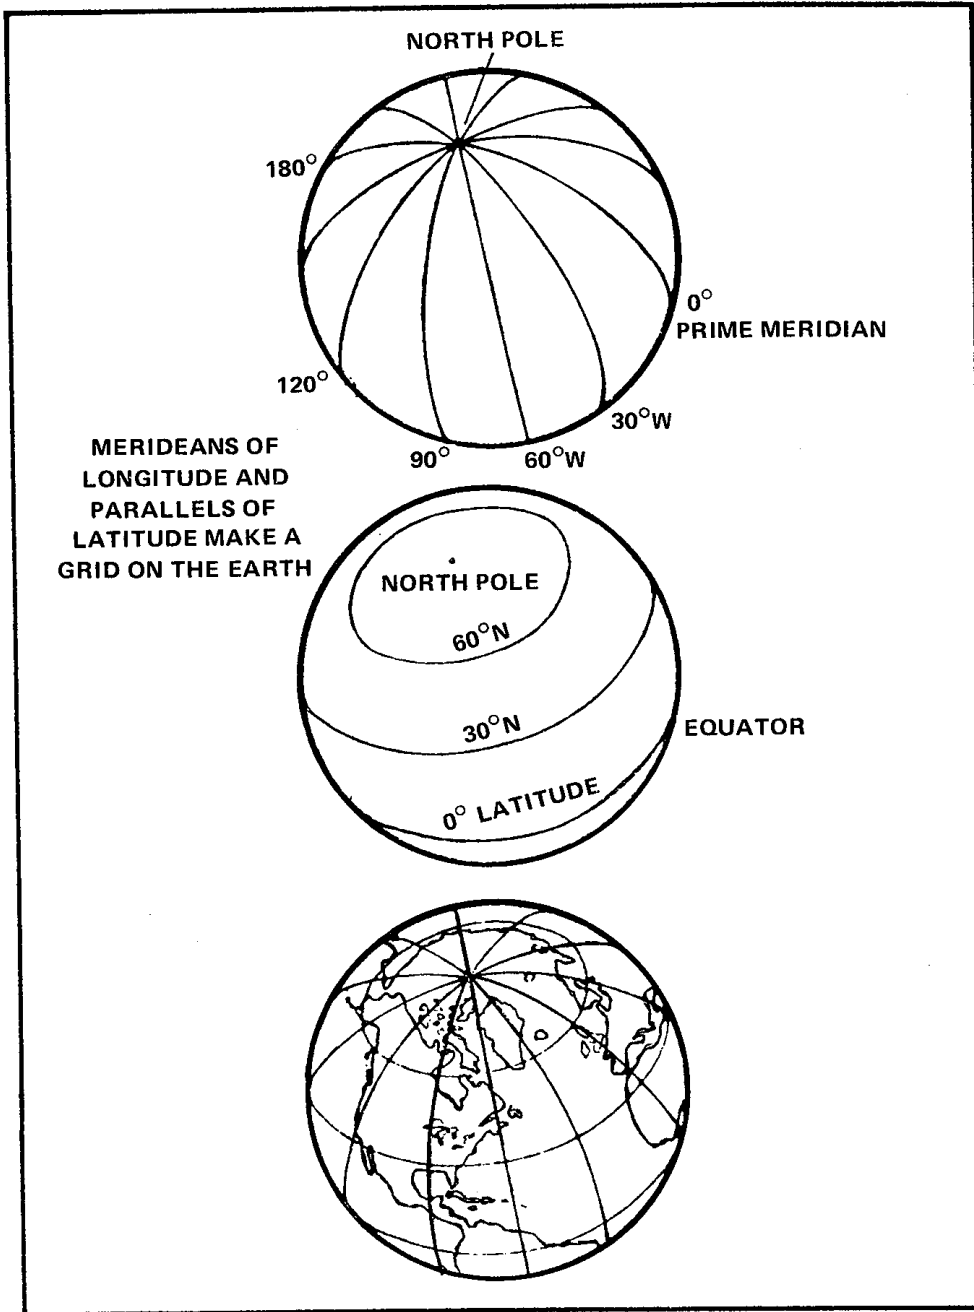

Figure 7-11 Meridians of Longitude and Parallels of Latitude Make a Grid of the Earth
30. **Latitude as Related to Distance** — (See Figure 7-11.) Running laterally across the chart, and parallel to each other, are black lines representing the **parallels of Latitude**, imaginary lines on the earth's surface which enable a position to be described. These are numbered north and south from the equator, (0° lat.) to the poles (90° north lat, 90° south lat). In the **right and left margins** of the chart can be read the degrees and minutes of the parallels, thus: $49^{\circ} 00'$, forty-nine degrees and zero zero minutes. There are **60 minutes to a degree**. **One minute of latitude** is, by definition, **one nautical mile** or nearly 6080 feet. Recalling that a statute mile is 5280 feet we observe that a nautical mile is 800 feet longer; work on most charts is done **using nautical miles**, as are speed and time calculations.